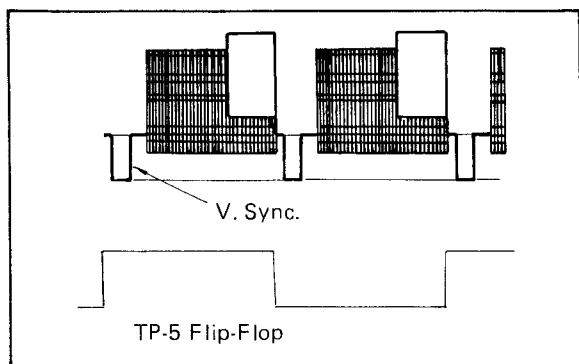

Fig. 6-13 Drum motor free running adjustment
3. Connect the oscilloscope to video signal from the signal generator and adjust R58 (DRUM SAMPLING POSITION) so that the video signal is synchronized with external sync signal as shown in Fig. 6-13.